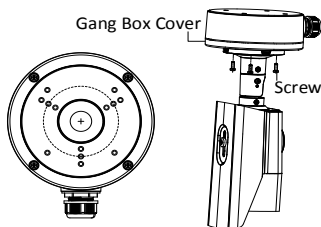

Figure 2-4 Fix the Camera with the Gang Box
2. Route the cables through the cable hole of gang box and fix the camera with the gang box cover with the supplied screws, as shown in Figure 2-4.